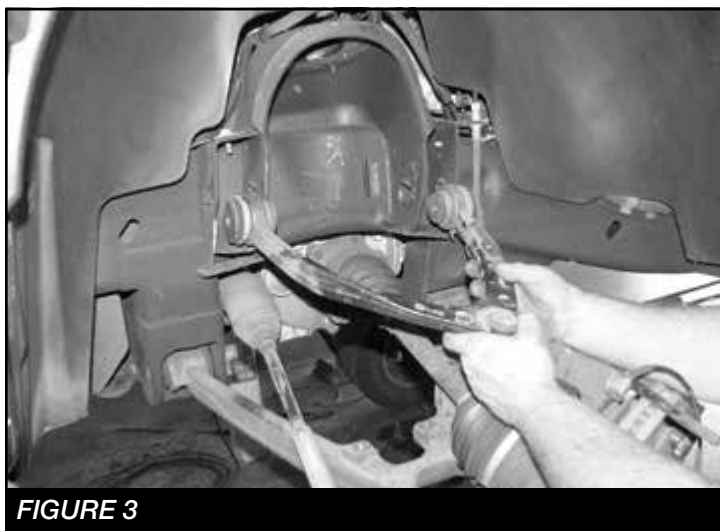

FIGURE 3
6. Mark the location of the alignment cams on the frame of the upper control arm pocket. Remove the upper control arm from the vehicle and save the factory hardware. **SEE FIGURE 3**